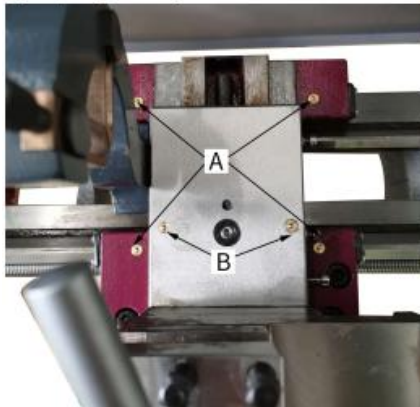

Fig. 36
2. Loosen knurled screw (B, Fig.36) and open the sliding fingers. (C, Fig.31) until the steady rest can be moved with its finger around the workpiece. Secure the steady rest in position.
Lubricate Four oil ports (A, Fig. 36) with 20W machine oil once daily.
Lubricate two oil ports (B , Fig. 36 ) with 20W machine oil once daily.